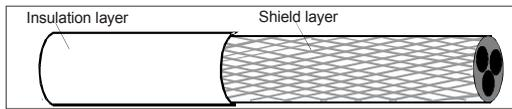

Figure 4-3 Cable cross section
- Figure 4-3 shows the minimum requirements of motor cables. The cable must consist of a layer of spiral-shaped copper strips; the denser the shield layer, the more effectively the electromagnetic interference is restricted.
- To effectively restrict the emission and conduction of radio frequency (RF) interference, the conductivity of the shielded cable must be at least 10% of the conductivity of the phase conductor. This requirement can be well met by a copper or aluminum shield layer.